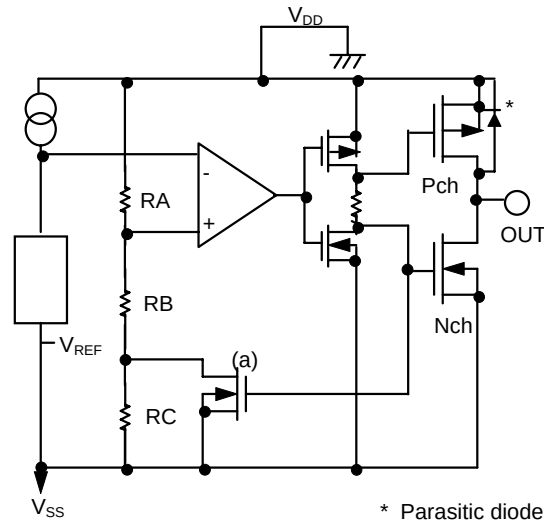
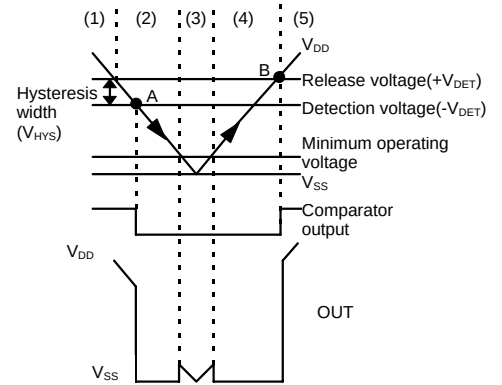

Figure 13
Figure 14
Hysteresis width is the voltage difference between a device's detection voltage and its release voltage (see Figure 14). $V_{HYS}=B-A$. By giving a device hysteresis, erroneous toggling of the output due to noise at the input is avoided.
- (2) When power supply voltage V_{DD} goes below $+V_{DET}$, the output continues to maintain the power supply voltage level, as long as V_{DD} remains above the detection voltage $-V_{DET}$. When V_{DD} does fall below $-V_{DET}$ (A in Figure 14), the Nch transistor goes ON, the Pch transistor goes OFF, and V_{SS} appears at the output. With the Nch transistor of Figure 13 (a) ON, the comparator input voltage is $RB/(RA+RB) \times V_{DD}$.
- (3) When V_{DD} falls below the minimum operating voltage, the output becomes undefined. However, output will revert to V_{DD} if a pull-up has been employed.
- (4) V_{SS} will again be output when V_{DD} rises above the minimum operating voltage. V_{SS} will continue to be output even when V_{DD} surpasses $-V_{DET}$, as long as it does not exceed the release voltage $+V_{DET}$.
- (5) When V_{DD} rises above $+V_{DET}$ (B in Figure 14), the Nch transistor goes OFF, the Pch transistor goes ON, and V_{DD} appears at the output.